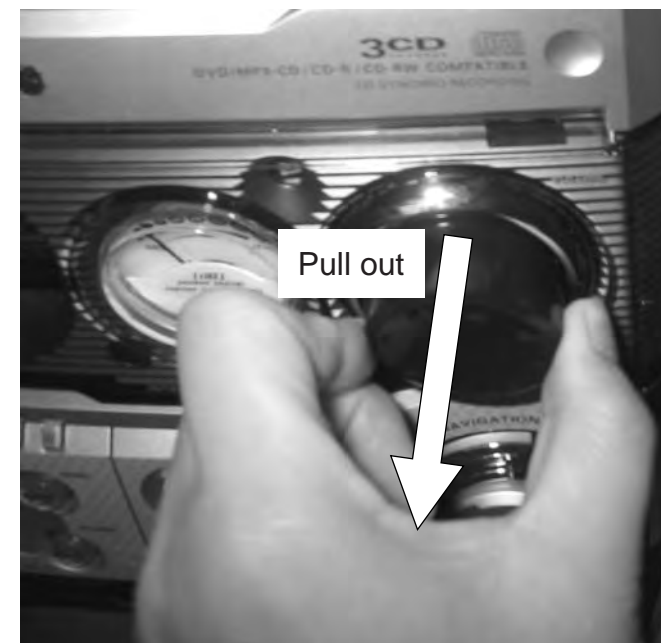

Figure 5
- 1) Remove the Volume knobs as stated in Dismantling the Cover Front Display in Figure 5.